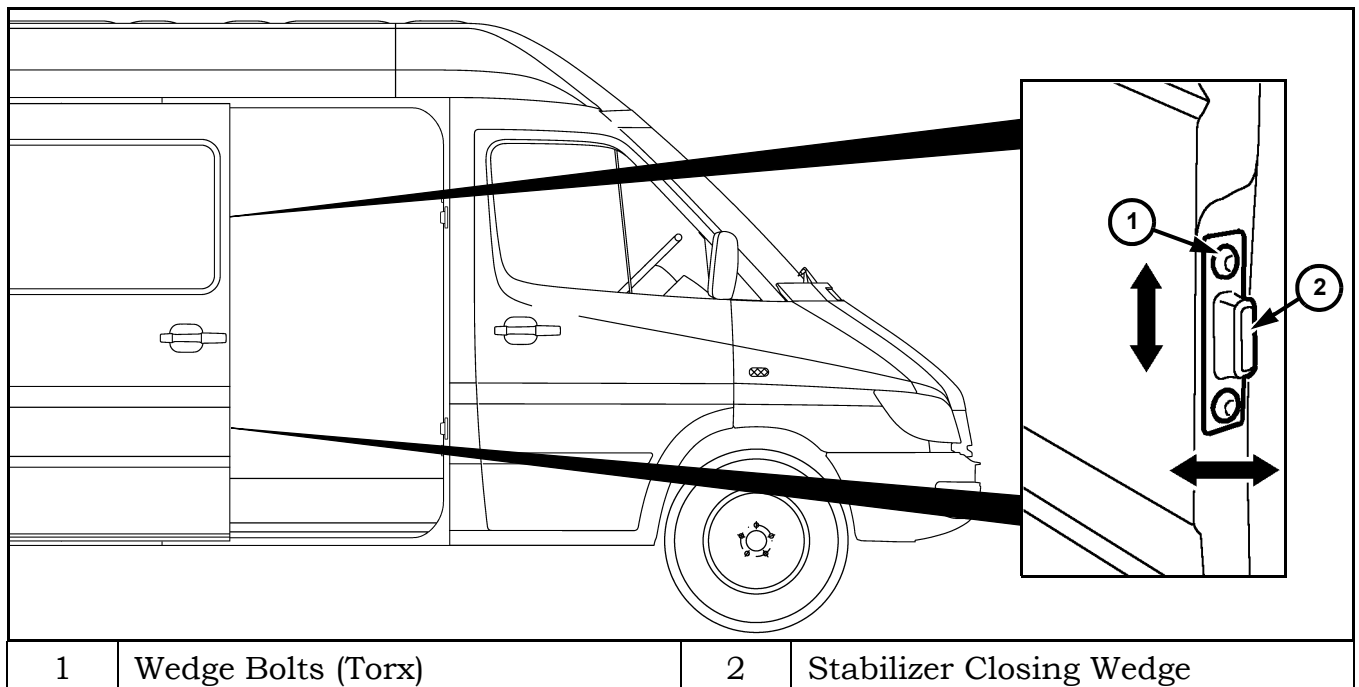

Figure 5 Door Stabilizer Closing Wedge
4. Loosen stabilizer closing wedge bolts to allow wedge to move. It must be possible to move the closing wedge during the entire adjusting procedure. In order to close the door during adjustment move guide wedge if necessary (Figure 5).